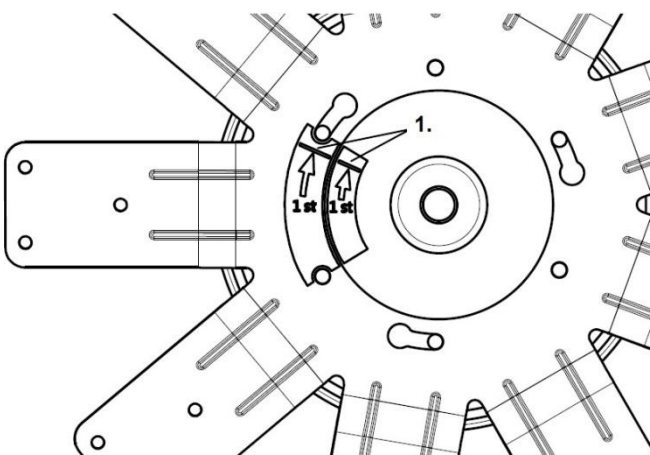
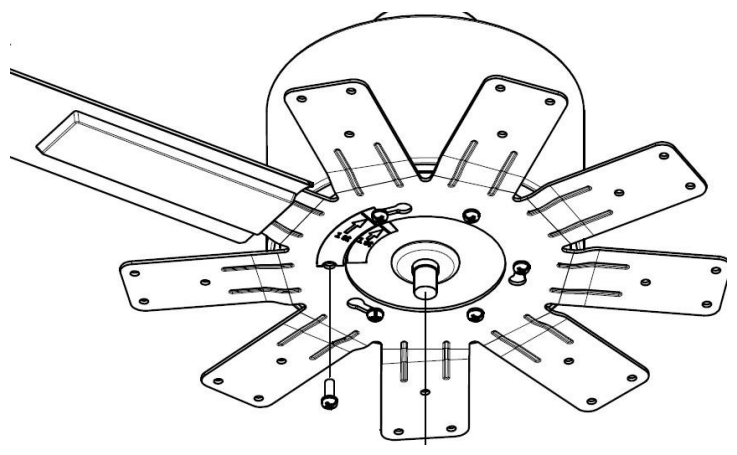

Fig. 8
Fig. 9
- Attach the blade holder to the motor by lining up the position label (1, Fig. 8) and secure it by tightening 6 screws (Fig. 9.)